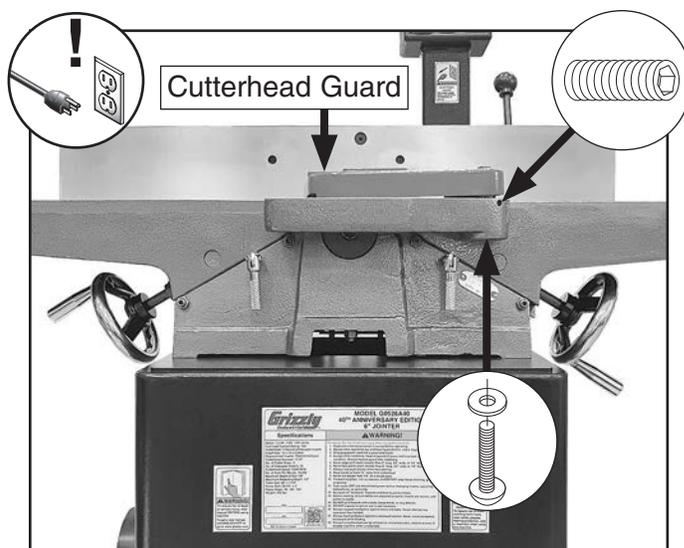

Figure 64. Cutterhead guard components.
2. Pull cutterhead guard away from fence and let it go (see **Figure 64**).
- Loosen Phillips head screw on cutterhead guard shaft, and set screw in rabbeting table (see **Figure 64**).